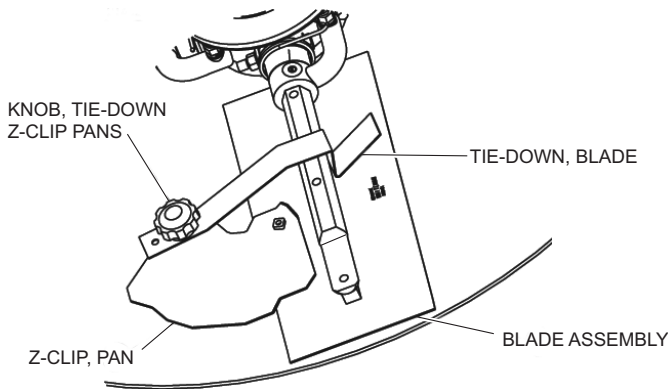

Figure 33. Z-Clip Finisher Pan Installation
Refer to Figure 33 when installing pans onto finisher blades.
3. Attach the blade tie-downs to the far side of the Z-clip brackets with the tie-down knobs as shown in Figure 33.